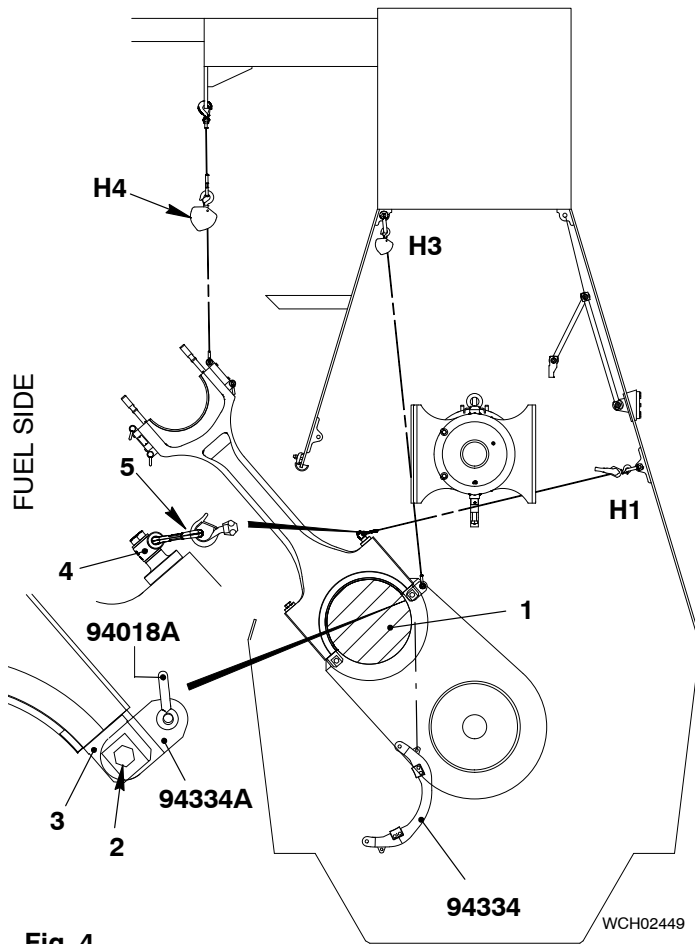
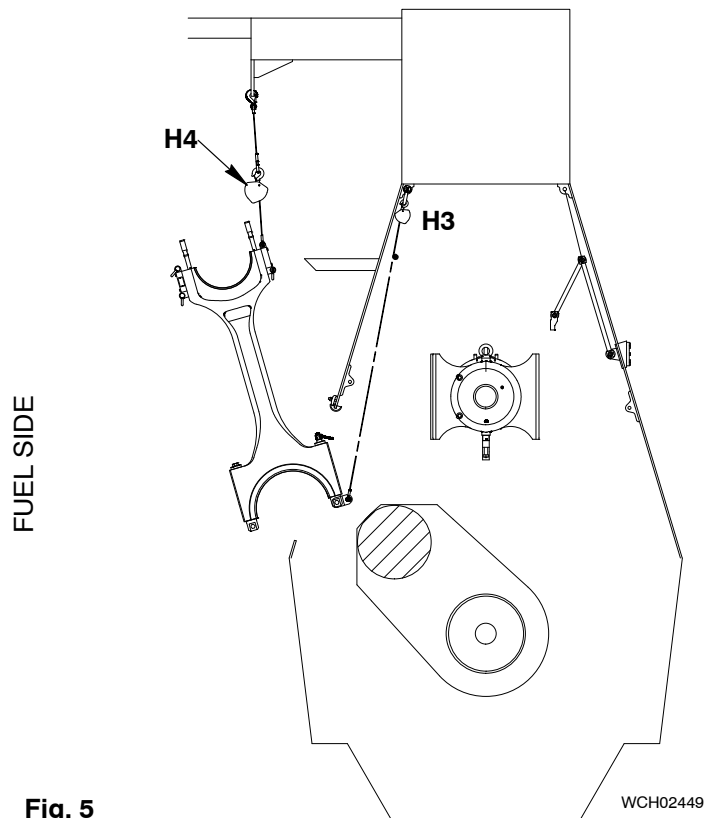

Fig. 4
Fig. 5
- 14) Operate the turning gear and chain block (H4, Fig. 4) to move the crank anticlockwise to the position shown.
- 15) Attach the manual ratchet (H1) to the lug (5) on top of the rod (4).
- 19) Carefully remove the bottom nut and bolt (2) from the bracket (94334).
- 22) Attach the connecting element (94334A) to the bottom of the rod (3) with the nut and bolt (2).
- 24) Remove the manual ratchet (H1) from the lug (3) on top of the rod (2).
- 25) Operate the turning gear and the chain block (H3 and H4, Fig. 5) to carefully move the connecting rod out of the column.